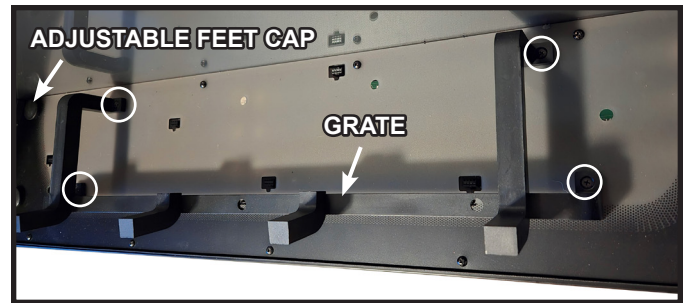

Figure 11 Grate Screw Locations
4. Remove the grate by removing the four (4) ST4X8 screws attaching the grate to the appliance. See Figure 11.
5. Remove the four (4) adjustable feet caps and set aside for reuse. See Figure 11.